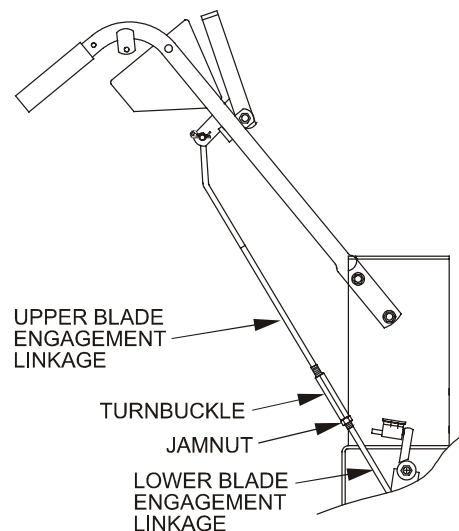

FIGURE 3
- 3.10 Connect the blade engagement linkages (See Fig. 3). Loosen jam nut and remove turnbuckle from lower linkage. Screw turnbuckle onto both upper and lower linkages simultaneously. Note that threads on upper linkage are left hand. See 5.2.2 for linkage adjustment.